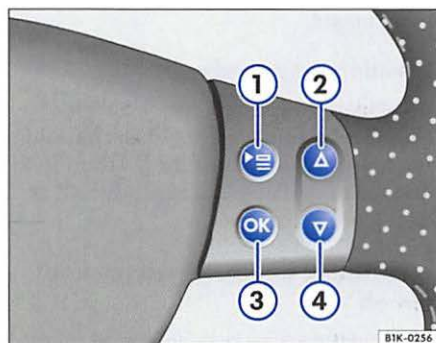

Fig. 11 Multifunction steering wheel: right side
- Press the ⇒ fig. 11 ① button on the multi-function steering wheel until the **SETTINGS** menu is displayed.
- Press the arrow keys ② or ④ to highlight the menu item **Convenience**. The highlighted menu item is between the two horizontal lines. There is also a triangle on the right ◀.
- Press the button ③. The **Convenience** menu opens. ▶